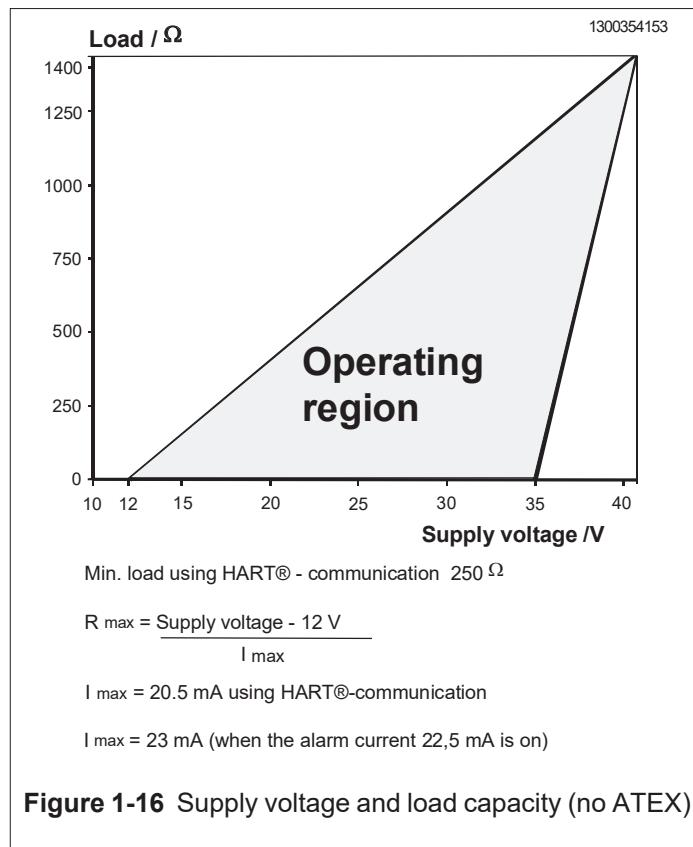

Figure 1-16 Supply voltage and load capacity (no ATEX)
- Supply voltage and load of the transmitter according to the figure 1-16.